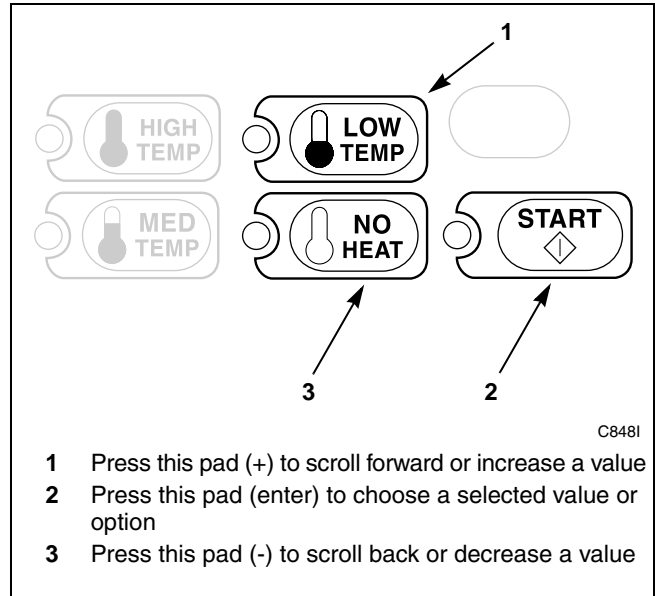

Figure 191
5. Press the LOW TEMP (+) or the NO HEAT (-) keypad to increase or decrease the current number of seconds displayed in the VFD to the desired number of seconds. Refer to *Figure 191*.
**NOTE: The Coin #2 Bonus Time can be set from zero (0) to 59 seconds.**